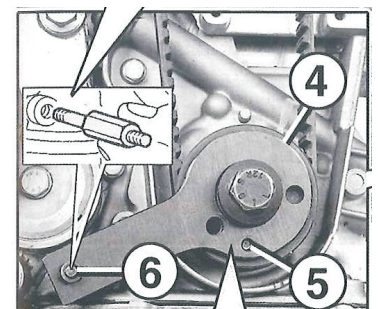

FIG. 5
- 2 Replace engine block bolt by specific tools to lock the crankshaft [FIG. 5] (4 and 6), making sure that the mark (5) matches. After, mount the timing belt.